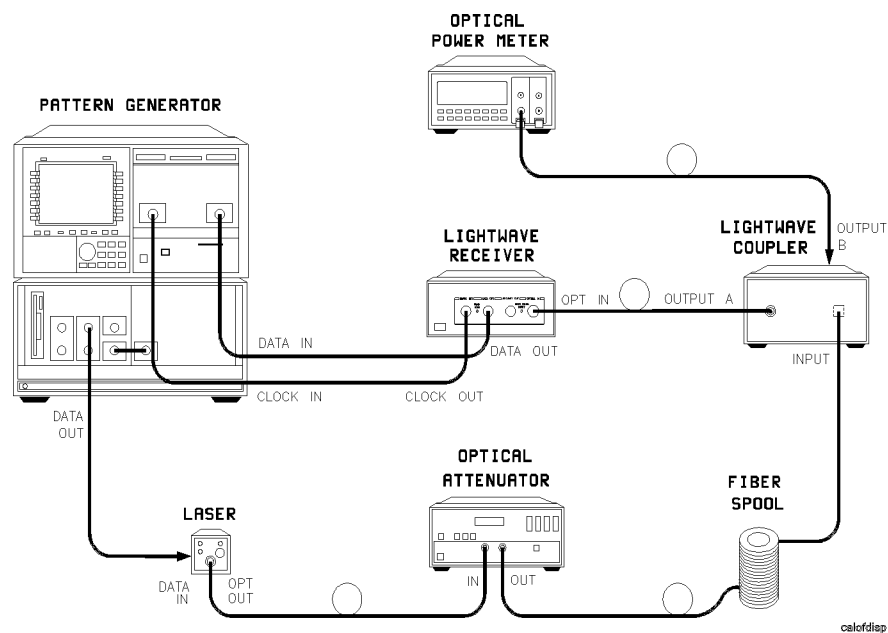

Figure 3-2. Setup to measure dispersion power penalty of single-mode fiber.
1. Connect the equipment as shown in Figure 3-2. Fiber length should be representative of length anticipated under normal operation.